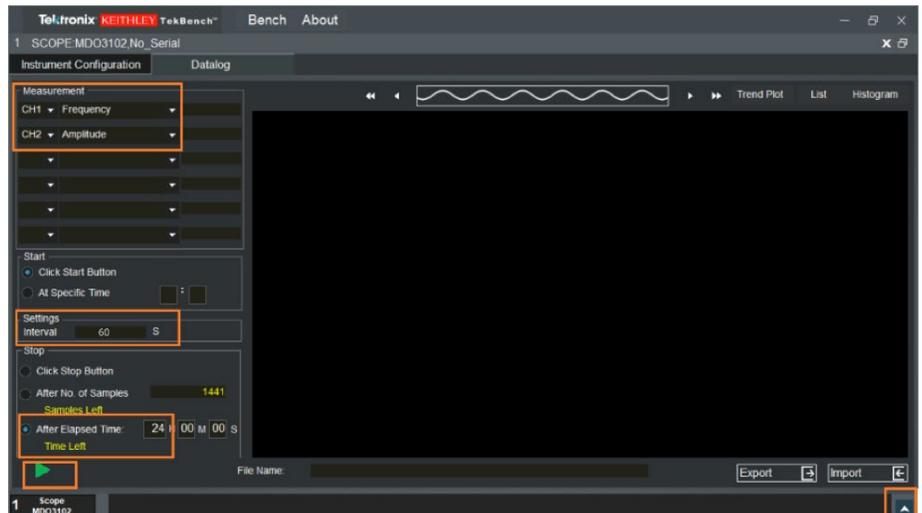

Figure 4: Measurement parameter setup.
- In the measurement data logging interface (**Figure 4**) click the arrow in the lower right corner to hide the instrument icon, then set up the measurement parameters as listed here:
Click the Start icon (the green arrow in **Figure 4**) to start measurement data logging; it will finish automatically after 24 hours.